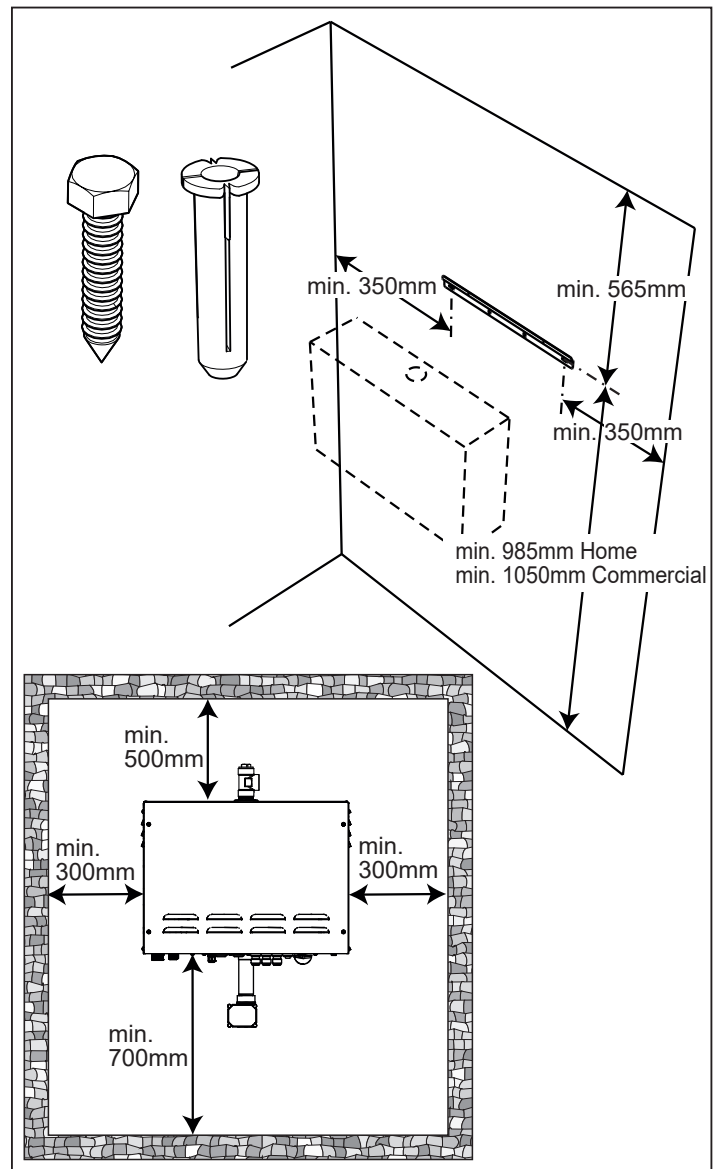

Figure 3 Suspending the steam generator
- Location of steam generator – see Figures 3, 4, 5
Take care to respect the specified installation distances (*Figures 3, 4*). The distances indicated are generous to allow sufficient space for maintenance and servicing.